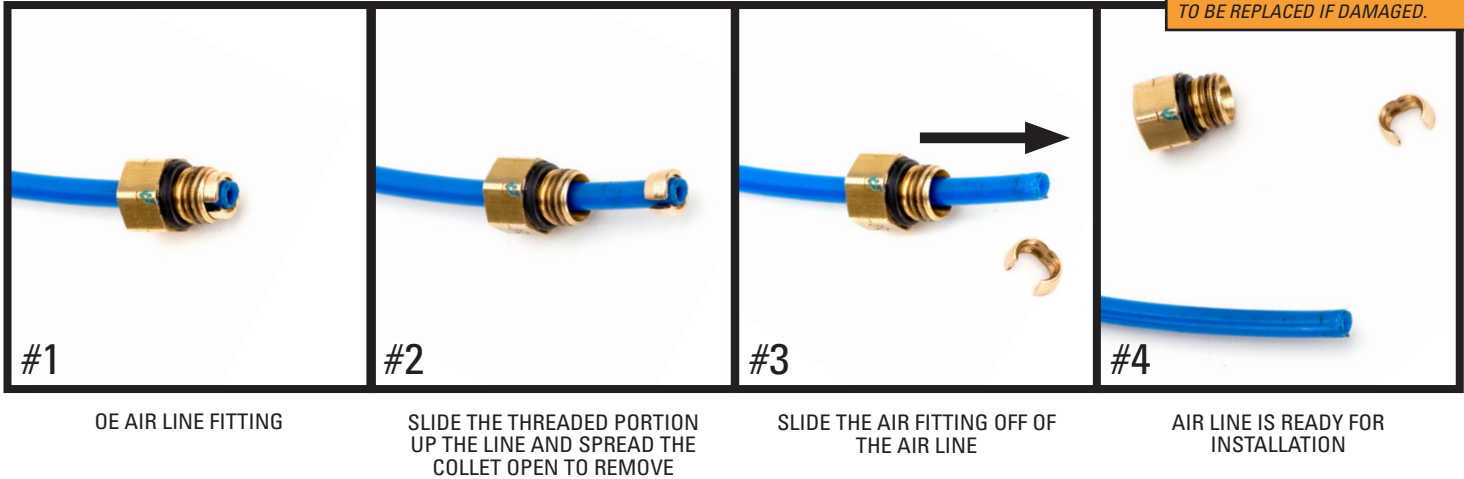

FIGURE 13
2. PREPARE THE EXISTING AIR LINES BY REMOVING THE OLD AIR FITTINGS, USING THE FIGURE BELOW AS AN EXAMPLE. (FIGURE 13)